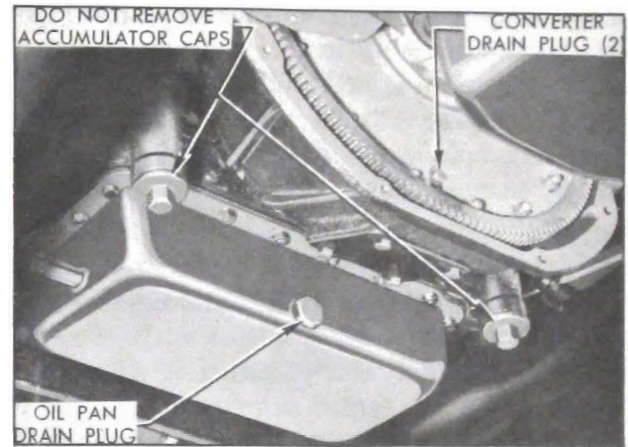

Figure 1-15—Dynaflo Transmission Drain Plugs
2. Loosen one converter drain plug, through opening in flywheel, then turn flywheel until opposite drain plug is straight down and remove this plug to allow converter to drain completely. See figure 1-15.
3. Remove drain plug and allow oil pan to drain completely. Do not remove accumulator caps. See figure 1-15.
5. Put 3 quarts of specified oil (subpar. a.) in transmission. With engine idling and transmission in Parking (P) complete the refilling to bring oil level to  $1\frac{3}{4}$ " below "FULL" mark on gauge rod. When transmission oil is warmed up, the oil level should then be at "FULL" mark on gauge rod.